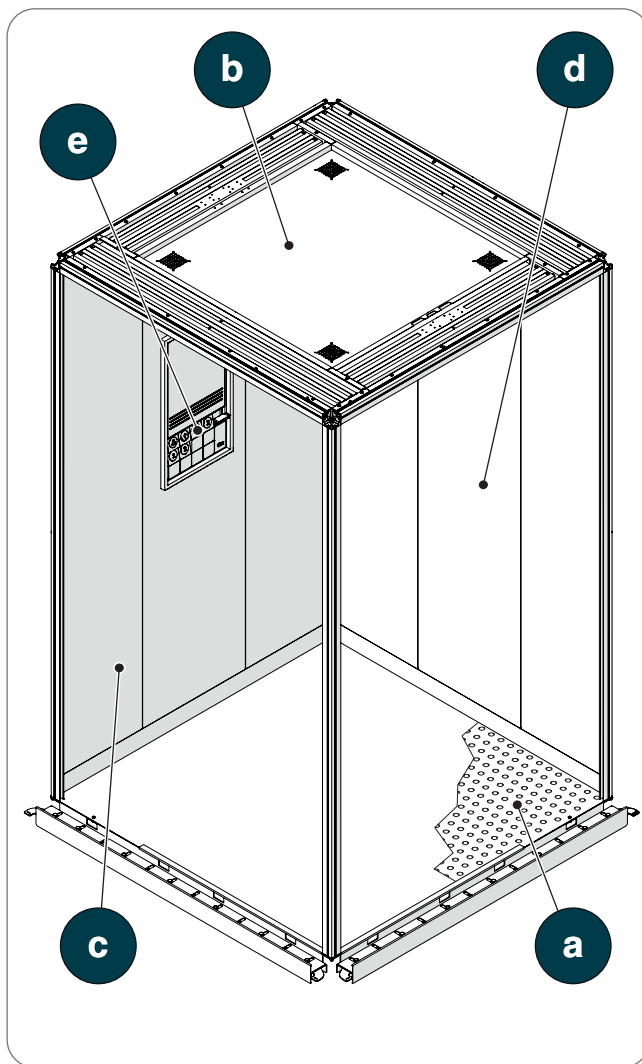
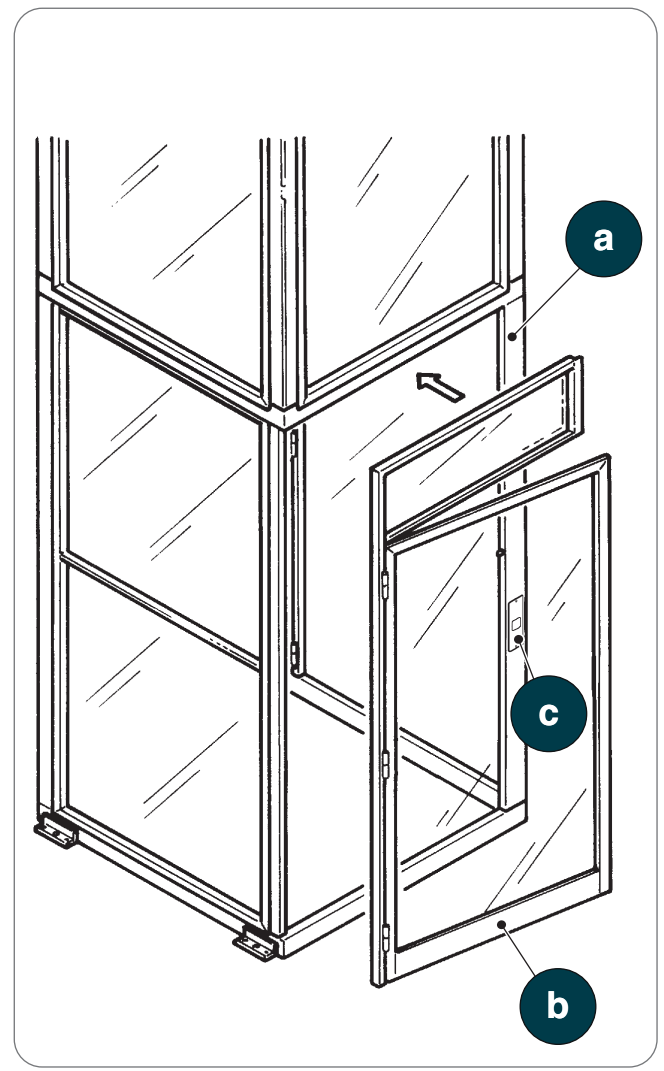

Fig. 4.1
Fig. 4.2
The lift consists of a moving part called platform (Fig.4.1), and a part that contains and protects the platform, called shaft (Fig.4.2). The shaft must ensure protection from the elements.
The platform features a non-slip floor (Fig.4.1/a), a roof (Fig.4.1/b), at least one vertical wall, on the push-button panel side (Fig.4.1/c), and side walls (Fig.4.1/d, if present). Inside there is a control push-button panel (Fig.4.1/e).
The shaft is a closed metal or masonry structure (Fig.4.2/a) which can be accessed through doors (Fig.4.2/b) located on the floors, which allow access to the platform. To guarantee people's safety, the landing doors are locked with a special safety lock. A door can be opened only when the platform is on that floor.
Near each access door there is a control push-button panel (Fig.4.2/c).
- Metal shaft structure (if required, Fig.4.2/a)
- Swing doors (Fig.4.2/b)